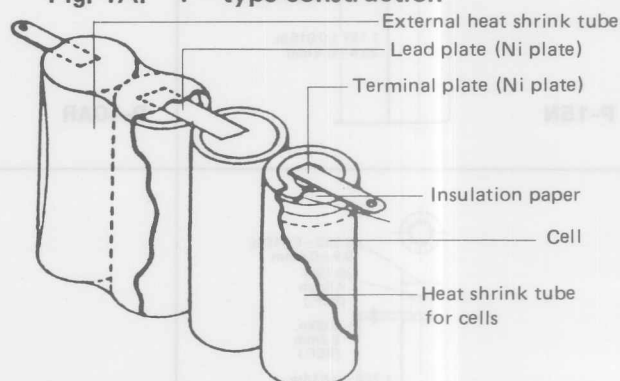

Fig. 2. "F" type configuration
- In-line packs ("F" type) (Fig. 2) and composites (Fig. 3)
(C) Typical "F" type configurations: (Fig. 2)